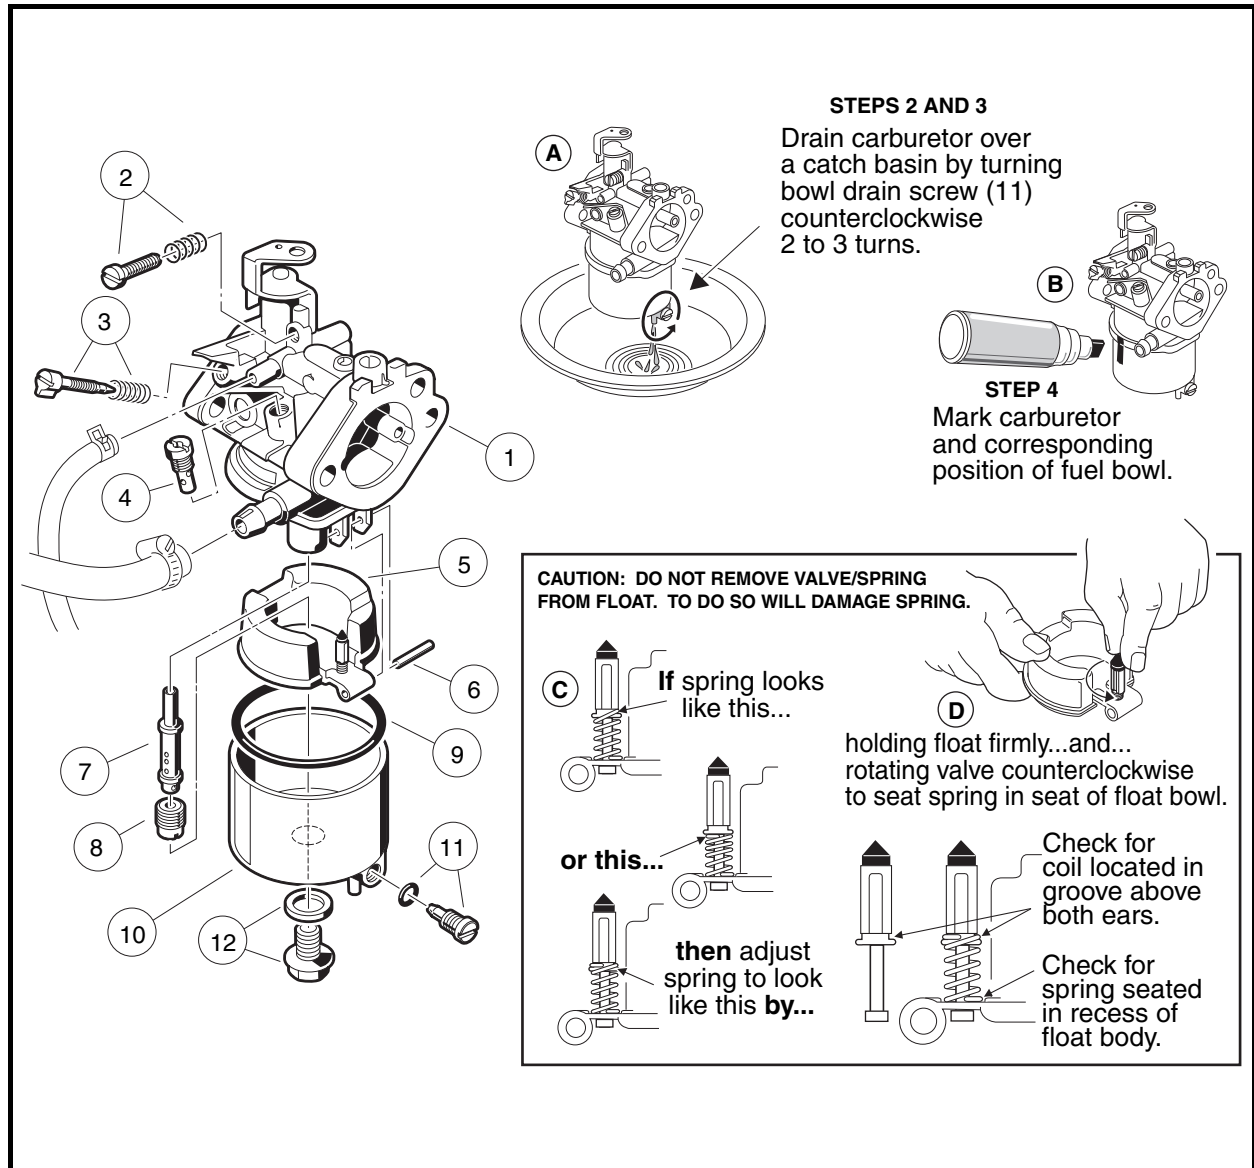

Figure 14-3 Changing the Main Jet
2. Position the carburetor with the drain screw (11) over a catch basin (**Figure 14-3, Page 14-5**).
5. Remove the carburetor fuel bowl retaining screw and washer (12), then remove the fuel bowl (10) and clean it with a nonflammable solvent. **See following NOTE.**
**NOTE:** Make sure the fuel bowl gasket (9) remains properly seated in the carburetor body when the fuel bowl is removed.
*During normal operation, the fuel bowl retains the float pivot pin (6). Make sure that the float pivot pin does not fall out of the carburetor body after the fuel bowl is removed.*
6. Remove the main jet (8) from the carburetor body and discard it.
**NOTE:** Keep the fuel nozzle (7) with the carburetor body after removal of the main jet by positioning the carburetor upside down during main jet removal.